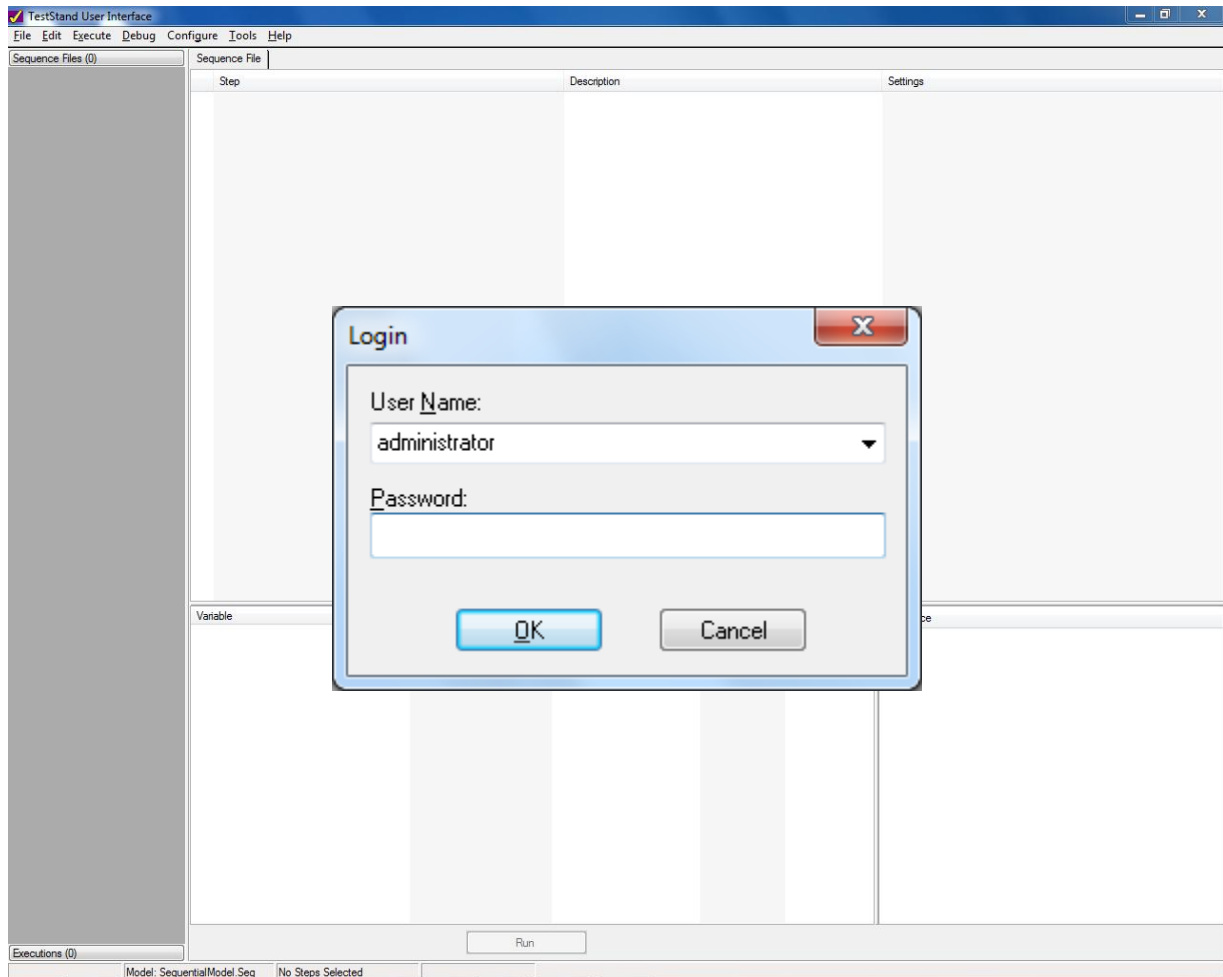

Figure 5-2: TestStand Login Screen
2. The TestExec initial screen is displayed with a Login window. Refer to Figure 5-2 for a sample TestStand Login Screen. Select administrator for the User Name and leave Password blank. Click the “OK” button to proceed or Cancel to abort.